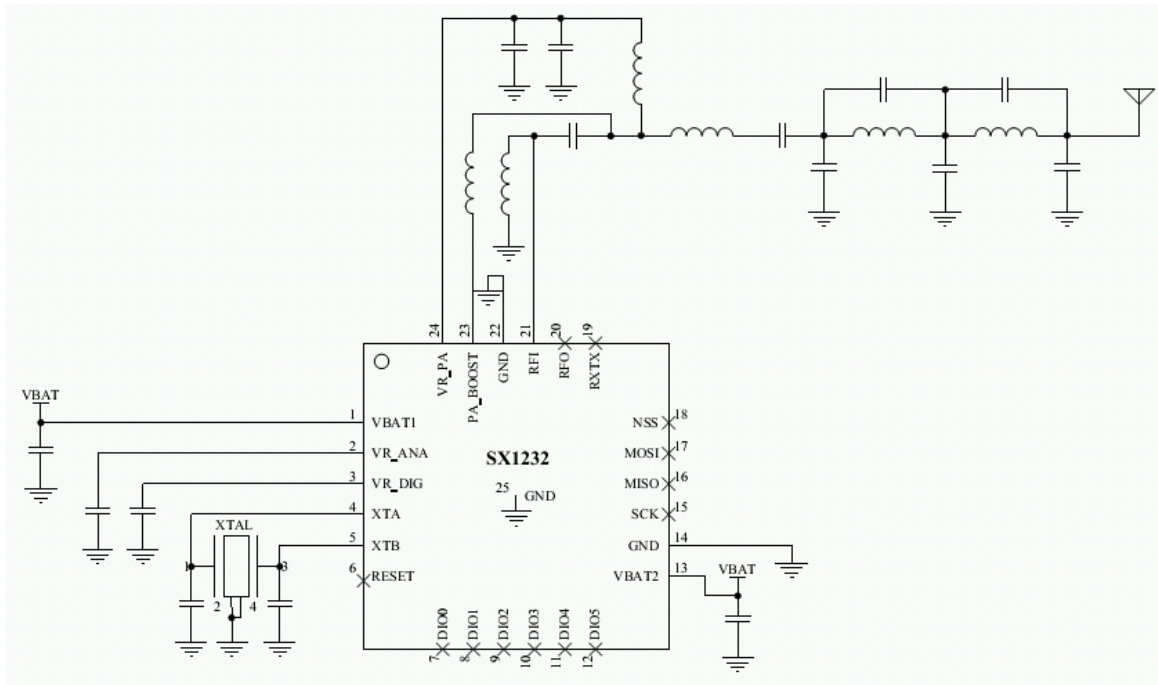

Figure 41. Reference Design - Single RF Input/Output, High Stability PA
*Note* The implementation of Figure 41 is limited to +14dBm Operation